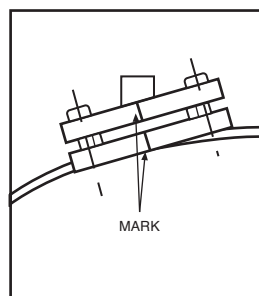

Figure 3
6. Mark mating flanges in order to match when re-assembling (Figure 3).